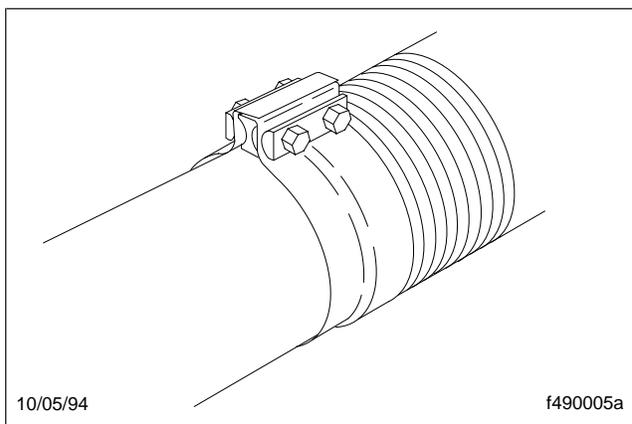

Fig. 1, Wide-Band Exhaust Clamp
4. Check for leakage at each wide-band exhaust clamp (**Fig. 1**). If leakage exists, tighten the nuts on Torca "Torctite" exhaust clamps 40 to 60 lbf-ft (54 to 81 N-m). If leakage persists, install a new wide-band exhaust clamp. See **Group 49** of the *Cargo Workshop Manual* for procedures.